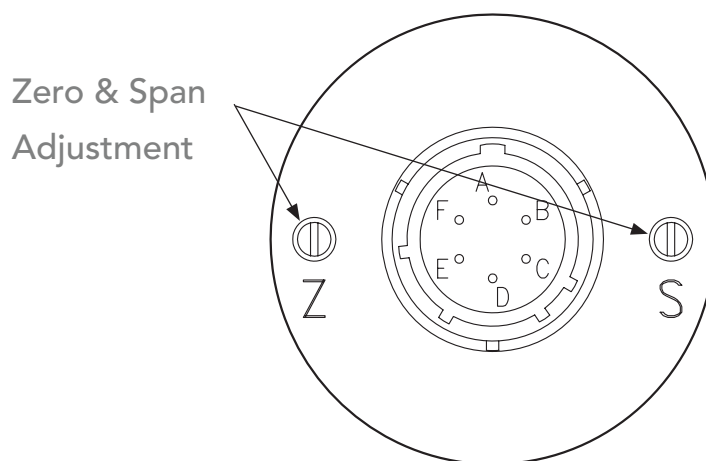

Figure 3.1
❗ IMPORTANT: Do not make changes to the Span adjustment (the "S" pot to the right, see Figure 3.1) as part of the zero trimming. The Span should only be changed as part of the recalibration of a gauge with a known pressure source.
- Apply full scale pressure to the pressure port and adjust the Span ("S") pot (on the right of Figure 3.1) until the full scale signal is reached.